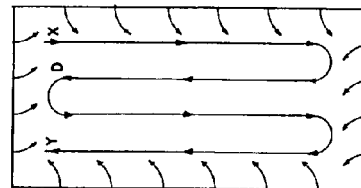

Figure 30. Gymnasium Mop Sweeping Pattern.
- (1) Sweep dirt out from wall with bristle brush.
- (2) Start sweeping in corner near dustbox and follow pattern as shown in illustration, fig. 30.
- (3) Upon return to dustbox, push sweepings across to finishing point of *next* round trip. Shake dirt into dustbox and push box to point beyond finishing point of next trip.
- (4) Repeat process until entire floor surface is swept.
- (5) Remove gum and sticky dirt with a putty knife.
- (6) Gather sweepings into dustpan with counter brush and empty pan into dustbox.
- (7) Collect sweeping tools.
- (8) There should be no dust streaks, no dirt in corners, or where dust was gathered, or where dustbox was placed.